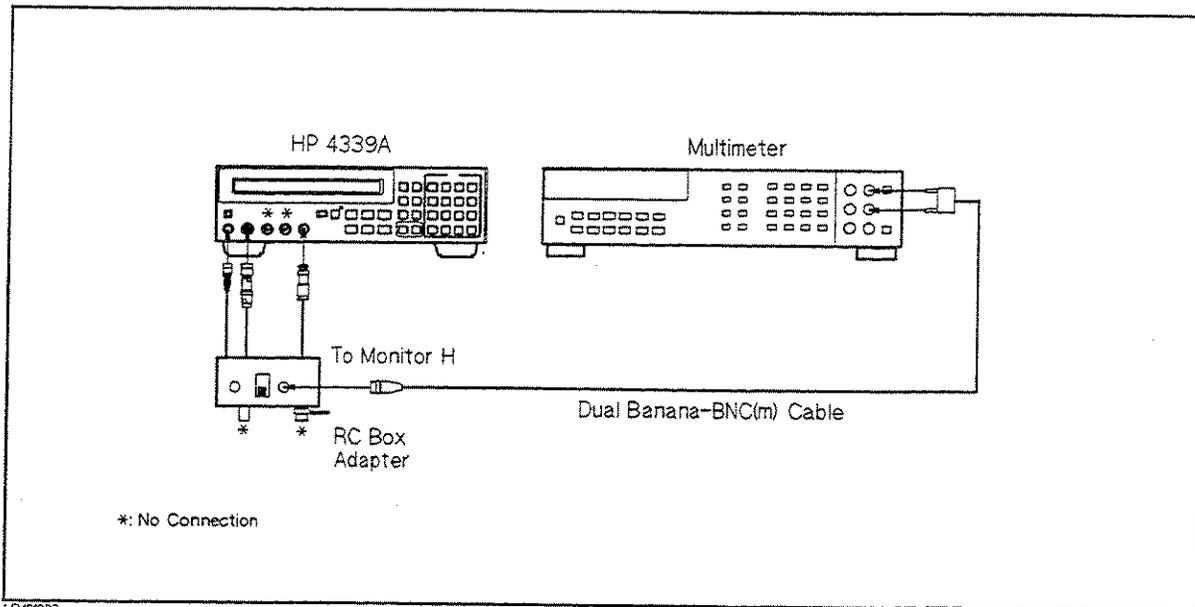

Figure 9-4. Current Measurement Accuracy Test Setup
4. Set up the equipment as shown in Figure 9-4.